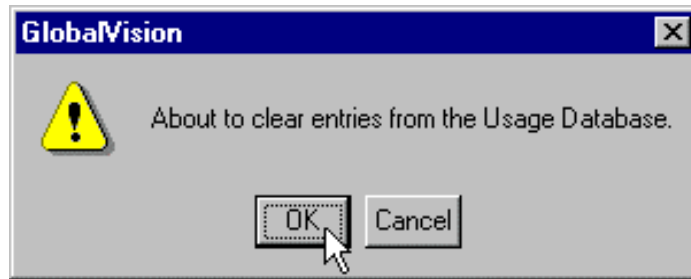

Figure 111 - Clear Usage Database message box
6. Choose **OK** in the CLEAR USAGE DATABASE message box to clear the entries from the USAGE DATABASE. The data from the database will then be cleared. See Figure 111.
2. Choose **OK** in the **CLEAR USAGE DATABASE** message box to clear the entries in the USAGE DATABASE. The data from the database will then be clear. See Figure 111.